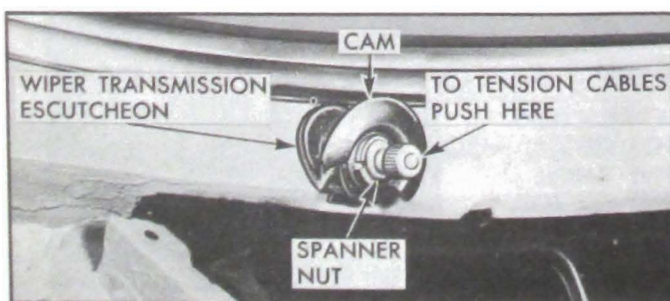

Figure 13-14—Windshield Wiper Transmission
5. Using Wrench 6592, remove wiper transmission escutcheon spanner nut; then remove cam, (if equipped with Cam-O-Matic feature) washer, and escutcheon. Disconnect washer hose to remove escutcheon and tape hose to shroud upper panel to facilitate installation. See Figure 13-14.
4. Connect washer hose to escutcheon. Position escutcheon, washer and cam (if equipped with “Cam-O-Matic” feature) and install spanner nut with Wrench 6592. See Figure 13-14.
NOTE: *Loose cables cause blade slap or overtravel at end of stroke. If this condition exists, adjust tension of cables as outlined in step "3". See Figure 13-14.*